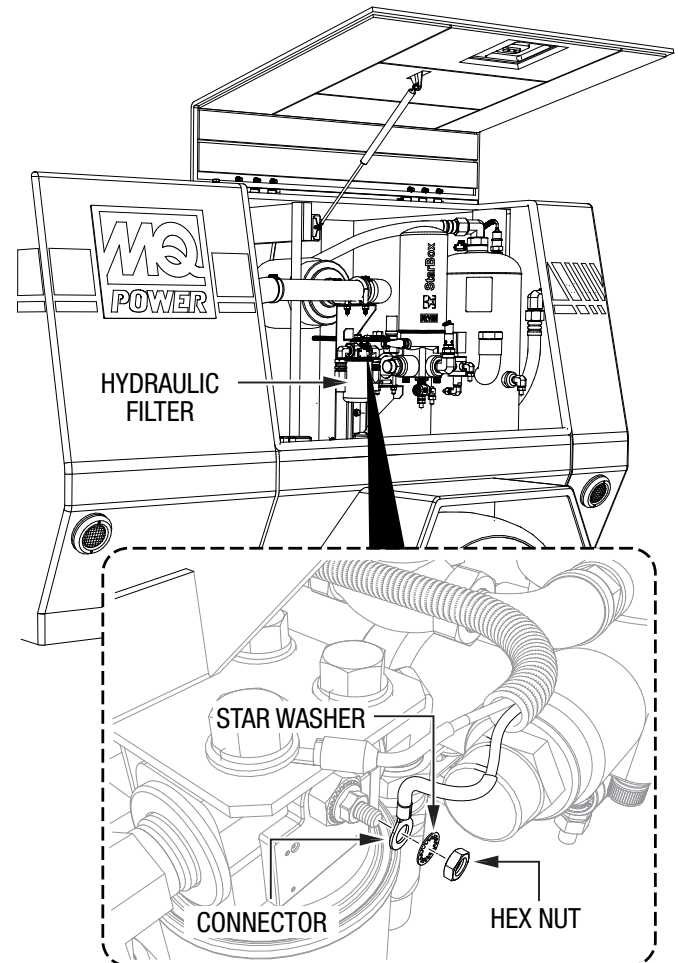

Figure 5. Hydraulic Filter Electrical Connector Removal
1. Remove and retain the hex nut and star washer securing the electrical connector to the front of the hydraulic filter. See Figure 5.